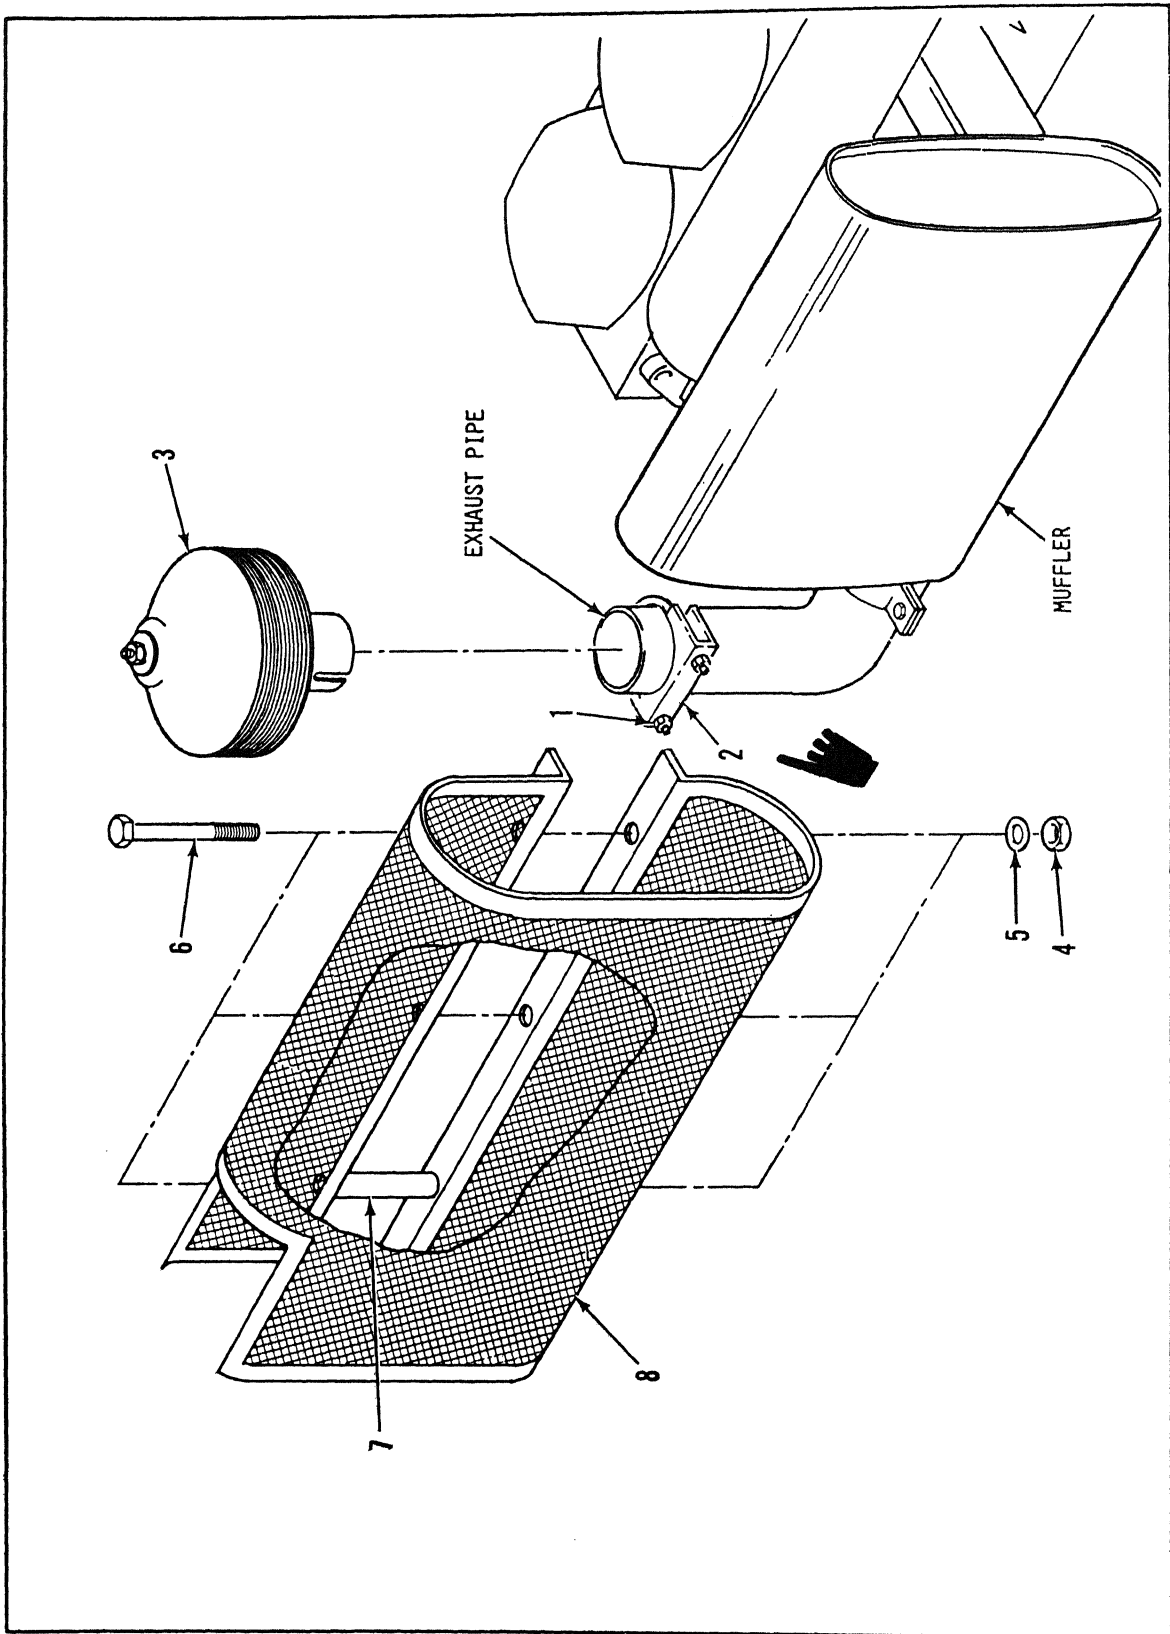
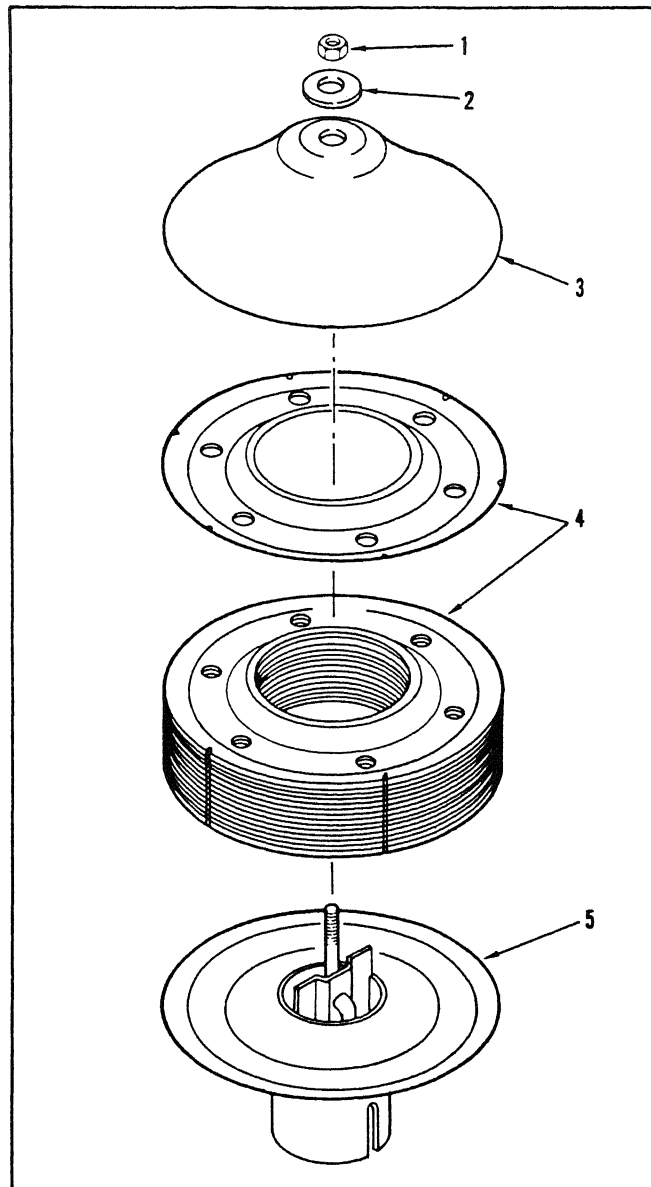

Figure 4-5. Exhaust Heat Shield and Spark Arrestor, Removal/Installation
Figure 4-6. Spark Arrestor, Assembly/Disassembly
4-11. EXHUAUST HEAT SHIELD (figure 4-5).
4-12. SPARK ARRESTOR (figure 4-5).
- (1) Loosen nuts (1) and clamp (2). Slide clamp onto exhaust pipe and remove spark arrestor (3).
b. Disassembly (figure 4-6).
- (1) Remove nut (1), washer (2) and cap (3).
- (2) Remove baffles (4) from base (5).
- (1) Inspect baffles for cracks, holes or other damage.
- (2) Check base for cracks and holes. Check mounting stud to make sure it is secure.
- (3) Replace any damaged or burned parts.
e. Assembly (figure 4-6).
- (1) Align indentations of baffles (4) and position to base (5) as indicated in figure 4-6.
- (2) Position cap (3) and install washer (2) and nut (1).
f. Installation (figure 4-5).
- (1) Place spark arrestor (3) on exhaust pipe.
- (2) Position clamp (2) and tighten nuts (1)